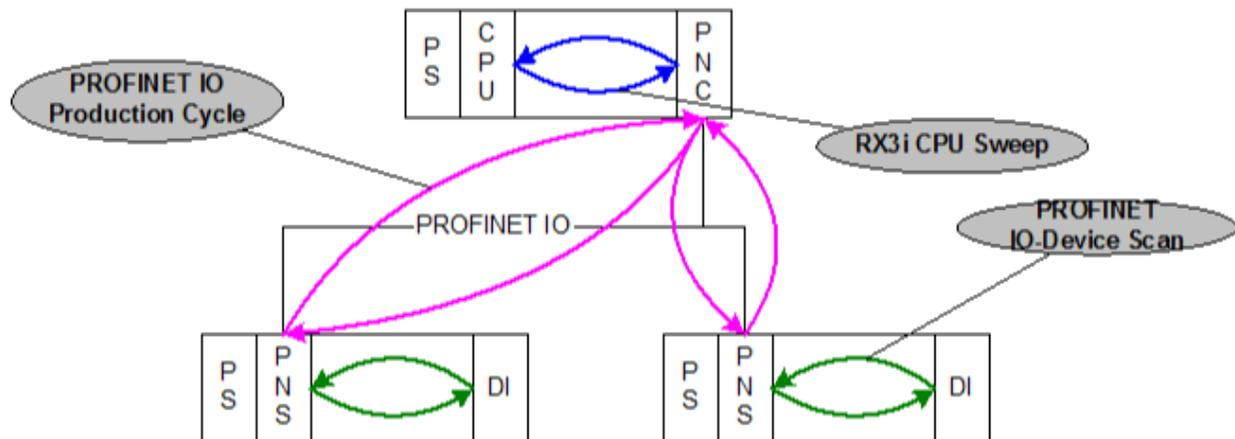

Figure 91: Diagram of Multiple Asynchronous I/O Scans
In the PACSystems PROFINET network, multiple I/O cycles run asynchronously and independently. Figure 91 illustrates typical cycles in a system with a PACSystems CPU with a PROFINET Controller, and PNS modules used as the head-end in IO-Devices. Cycles may be different for third-party devices.
- PROFINET IO-Device Scan:** in Figure 91, each VersaMax PNS scans all the modules in its node as quickly as possible. The PNS stores the input data gathered from each of the input modules in that node into its internal memory. On each output scan, the PNS writes the output data from its internal memory to the output modules in its node.